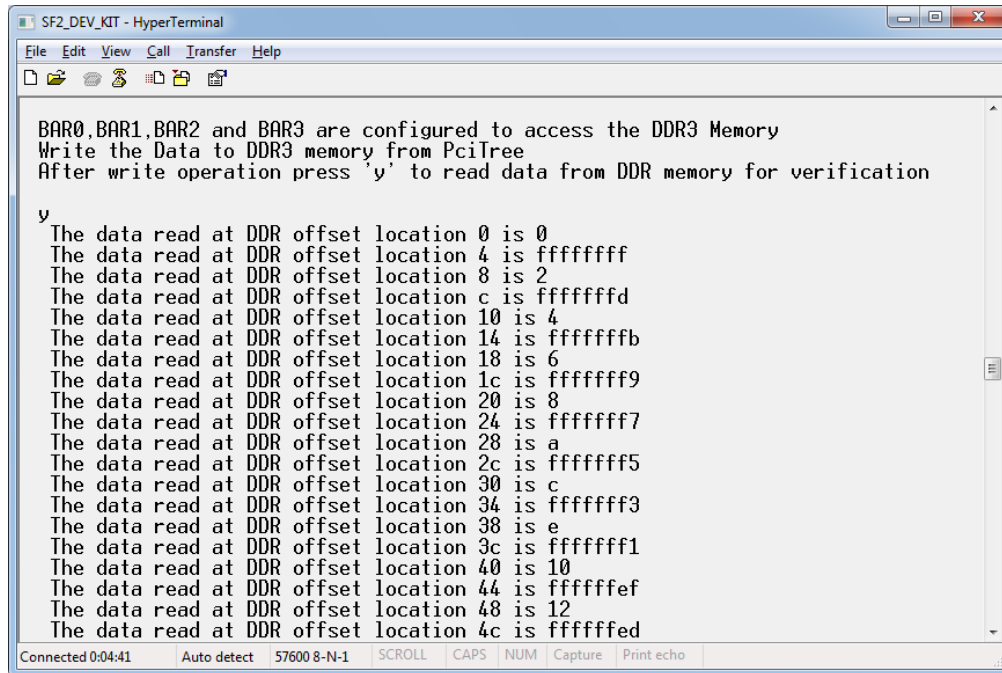

Figure 24. Read DDR3 Memory
24. Enter **y** in the terminal to Read data from DDR3 for verifying the written data on DDR3 memory using HyperTerminal. To skip reading the data from DDR3, enter any other key. The messages will appear on HyperTerminal, as shown in Figure 24.